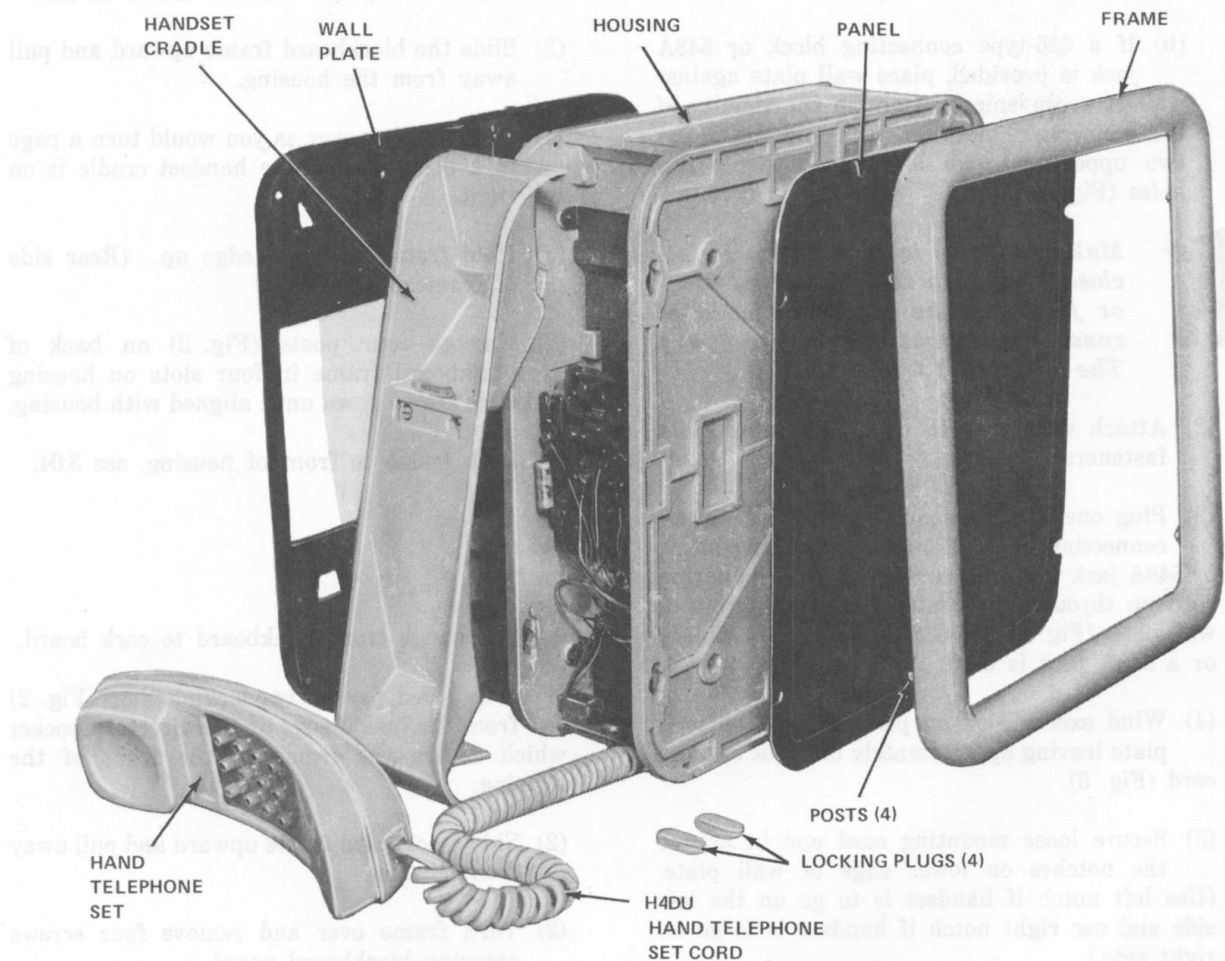

Fig. 2—950A- or 2950A-Type Telephone Set, Assembly
2.04 The set consists of a wall plate, housing, frame, two panels (blackboard or cork board), hand telephone set, handset cord, mounting cord, ringer, line switch, and jacks (Fig. 2).
- (1) If required, pry out two locking plugs (Fig. 2) from the inside edge of directory pocket which secure the frame to the front of the housing.
- (2) Place housing on a table with blackboard frame on top and handset cradle on left.
- (3) Slide the blackboard frame upward and pull away from the housing.
- (4) Turn housing over as you would turn a page in a book so that the handset cradle is on the right.
- (5) Hold frame with top edge up. (Rear side of frame is marked.)
- (6) Engage four posts (Fig. 2) on back of blackboard frame in four slots on housing and slide frame down until aligned with housing.
- (7) Lock frame to front of housing, see 3.04.
- (1) If required, pry out two locking plugs (Fig. 2) from the inside edge of the directory pocket which secure the frame to the front of the housing.
- (2) Slide blackboard frame upward and pull away from housing.
- (3) Turn frame over and remove four screws securing blackboard panel.
- (4) Lift out the blackboard panel.
- (5) Insert cork board panel with the cutout towards top of frame.
- (6) Replace four screws.
- (7) Hold frame with top edge up and engage four posts (Fig. 2) on back of cork board frame in four slots on housing and slide frame down until aligned with housing.
- (8) Lock frame to front of housing, see 3.04.
3.04 Lock blackboard or cork board panel and frame to front of housing by inserting two locking plugs (Fig. 2) in holes on the inside edge of directory pocket.
3.07 Lock housing to wall plate by inserting two locking plugs (Fig. 2) in holes on inside edge of directory pocket.